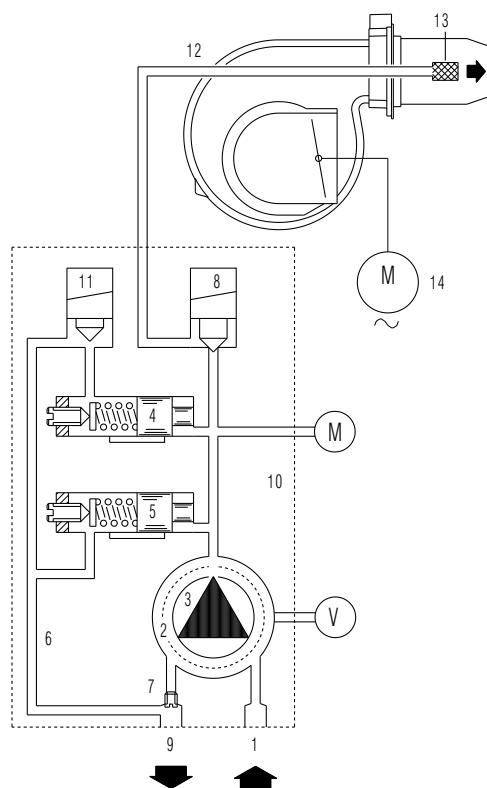

Fig. 19
- in this case the screw 7) should not be removed (see the diagram Fig. 19): pump internal by-pass closed.
- Remove the screw 7), (Fig. 19), accessible from the return fitting: pump internal by-pass open.
The pumps have a by-pass that connects the return line piping with that of the suction line (Fig. 19). They are installed on the burner with the by-pass closed by screw 7)(Fig. 19).